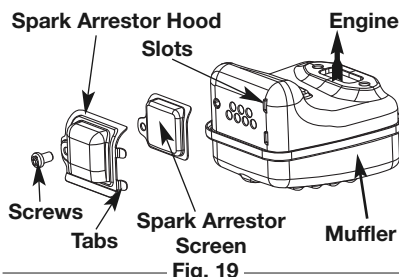

Fig. 19
2. Locate the muffler, **but do not remove it**. Find the screw on the bottom of the muffler (Fig. 19). This screw holds the Spark Arrestor Hood Assembly and the spark arrestor screen to the bottom of the muffler. Remove this screw using either a Torx T20 or flat blade screwdriver.